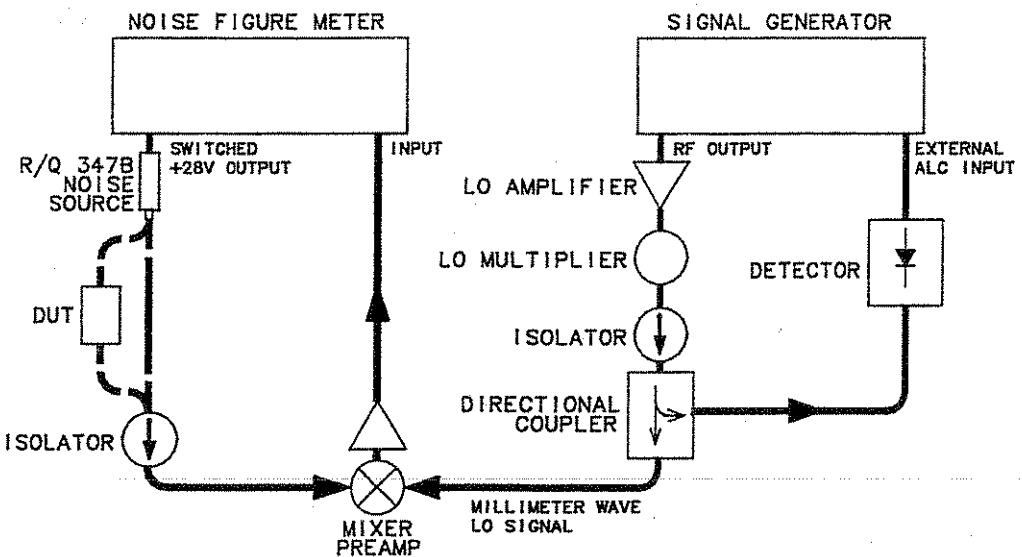
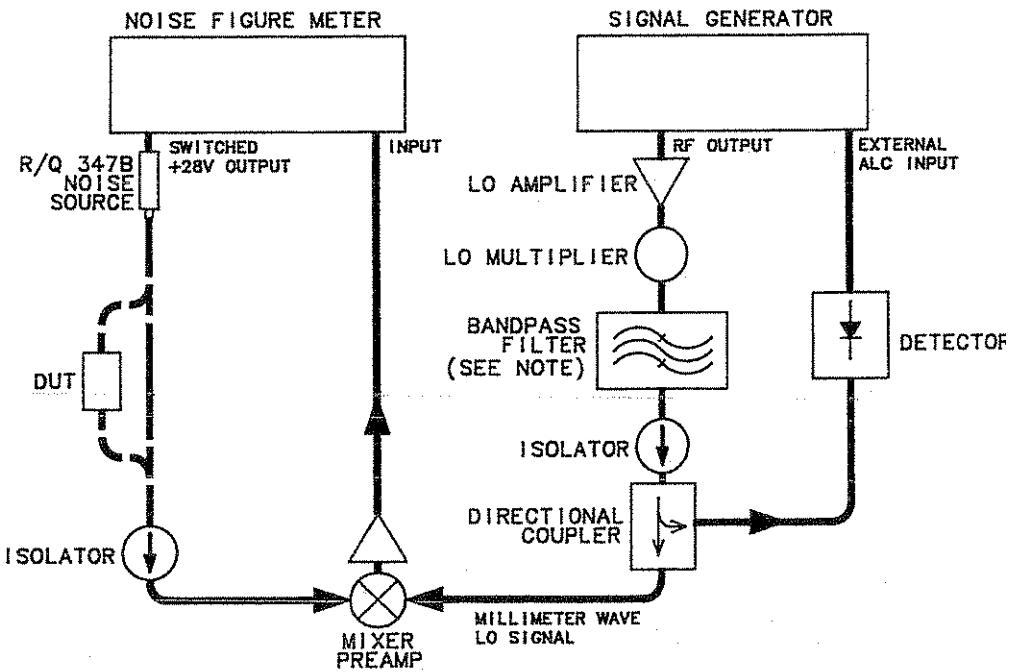

Figure 2. Noise Source Functional Test Setup
Figure 3. Noise Figure Measurement Setup
Noise figure measurements of devices (such as amplifiers, mixers, transistors, and receivers) can be made using the Noise Source with a noise figure meter. Figure 3 depicts a simple test setup for a noise figure measurement. Figure 2 is a similar setup to verify the Noise Source is operational. Note that the noise figure meter must have a $+28 \pm 1$ V switched output.
Connect the equipment as shown in Figure 2 and follow this procedure:
1. Connect the equipment as shown in Figure 3 with the device under test (DUT) removed. Most of this equipment is described in Table 3.